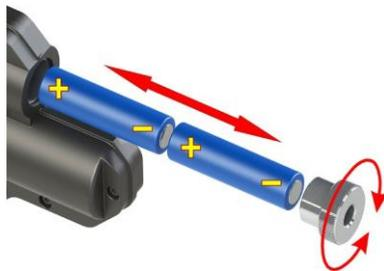

Fig. 8
4. Install batteries in the ST 400 (Figure 8):